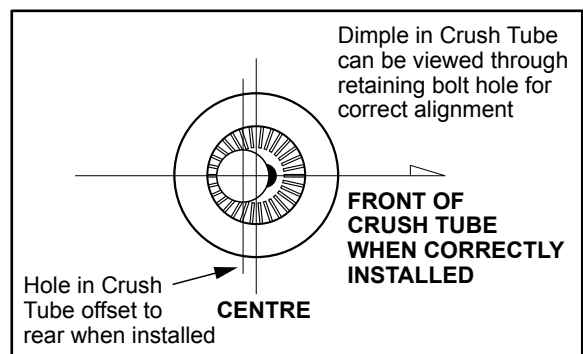

Fig.4
7. Grease the centre bore, flange faces and chassis contact points then install the supplied offset crush tubes correctly into the bush (as per Fig.4)
(REFER TO FIG.4)